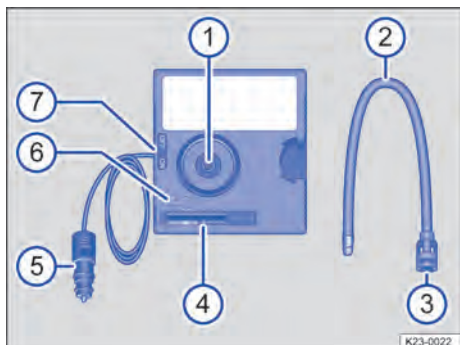
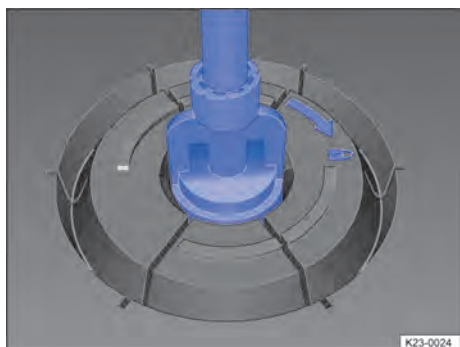
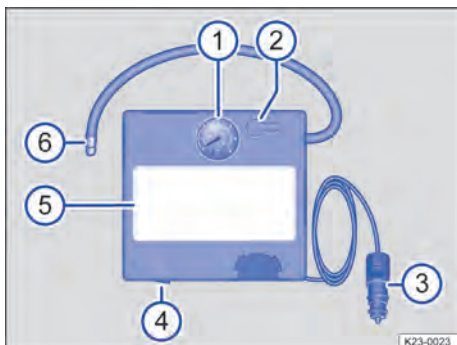

Fig. 219 Compressor in the breakdown set (illustration).
Fig. 220 Connecting the tyre filler hose.
Fig. 221 Compressor in the breakdown set (illustration).
1. Remove the tyre filler hose → Fig. 219 ② from the rear of the compressor.
2. Insert the tyre filler hose → Fig. 219 ② with the wing nut ③ into the mount for
3. Turn the wing nut → Fig. 219 ③ in a clockwise direction until the wing nut is pointing to ☷ → Fig. 220.
4. Screw the tyre filler hose → Fig. 219 ② of the compressor tightly onto the tyre valve.
6. Insert the 12-volt plug → Fig. 219 ⑤ into one of the vehicle's 12-volt sockets → page 217.
7. Switch on the compressor with the ON/OFF switch → Fig. 219 ⑦.
1. Screw the tyre filler hose → Fig. 221 ⑥ of the compressor tightly onto the tyre valve.
3. Insert the 12-volt plug → Fig. 221 ③ into one of the vehicle's 12-volt sockets → page 217.
4. Switch on the compressor with the ON/OFF switch → Fig. 221 ④.
5. Run the compressor until the pressure has reached 2.0–2.5 bar (29–36 psi/ 200–250 kPa). **Maximum run time: 10 minutes** → ❶.
2. Reconnect the tyre filler hose → Fig. 219 ② or → Fig. 221 ⑥ and read the tyre pressure on the tyre pressure display → Fig. 219 ④ or → Fig. 221 ①.